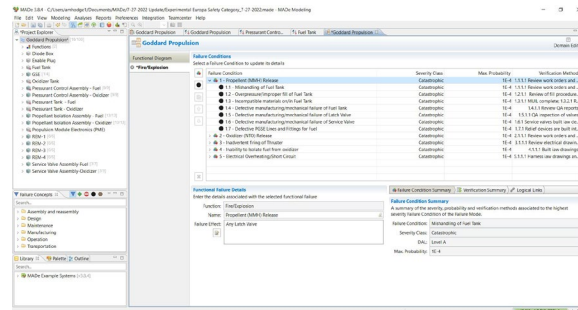

Figure B23: Example Failure Conditions
- 3) Add the hazards (or hazard titles) to each category by right-clicking on the *Function* and opening the *Failure Conditions* window and adding a *Functional Failure* for each hazard. These are represented by a Venn Diagram Symbol as shown here:  and in Figure B23.
- 5) Characterize each *Functional Failure* (or hazard) with a consequence (via the *Failure Effect* field, Figure B23). Note: A *Failure Condition Summary* for the highest severity *Failure Condition* (or hazard cause), Verification Summary, and Logical Links associated *Functional Failure* (or hazard) will be shown for reference.
Effect field, Figure B23), potential occurrence period (via the *Mission Profile* field), enabling environment (if any, via the *Environment & Emergency Configuration* fields), criticality/limitations (via *Severity Class*, *DAL*, and *Max Probability* fields), controls (via the *Criticality Annotation* field), and verifications (via the method fields of *Analysis*, *Inspection*, *Test*, and *Demonstration*). See Figures A24-26.